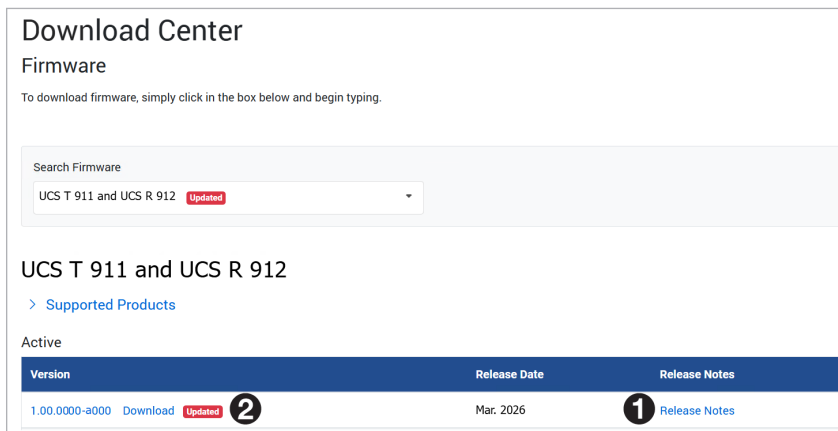

Figure 10. Firmware for the UCS 910 Series
3. (Optional) click **Release Notes** (see figure 10, ①). These notes show the issues that have been addressed by the latest update. If these issues do not affect you, you may decide not to upgrade the firmware.
4. Click the UCS T 911 and UCS R 912 **Download** link (②).